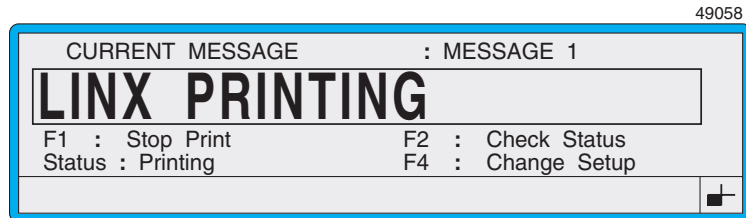

Figure 2-9 Current Message Screen—When Printing
- The options on the left side of the screen change to display “F1 : Stop Print” and “Status : Printing” (see Figure 2-9 below)